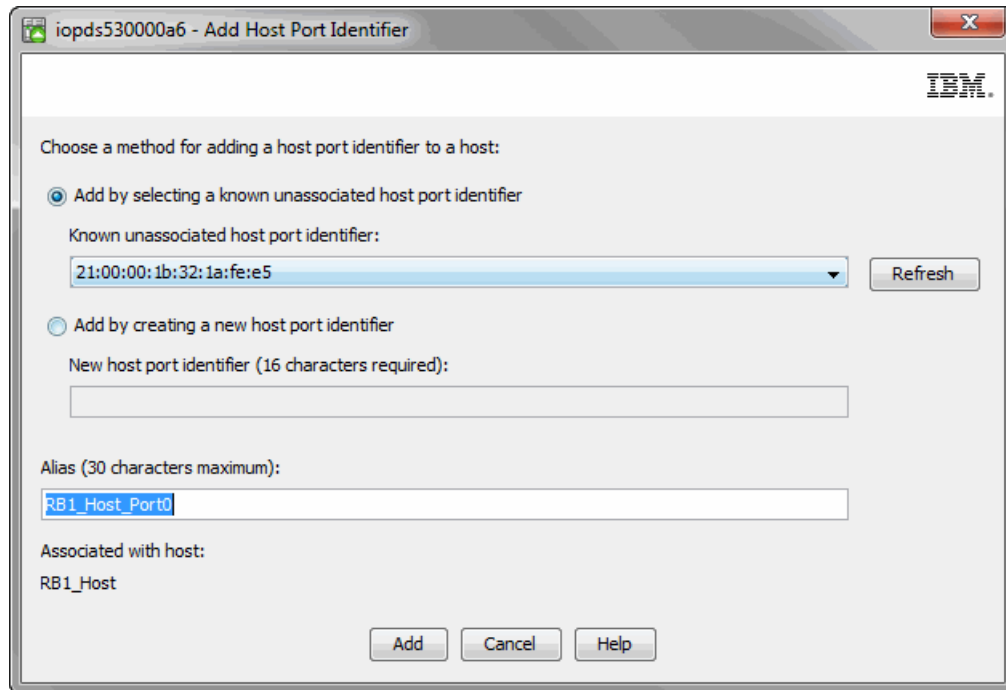

Figure 2-73 Creating the Alias to the WWPN
3. Select the correct WWPN from the drop-down in the *Know unassociated host port identifier*, as shown in Figure 2-73. In this case we select 21:00:00:1b:32:1a:fe:e5 as the one we are going to add.